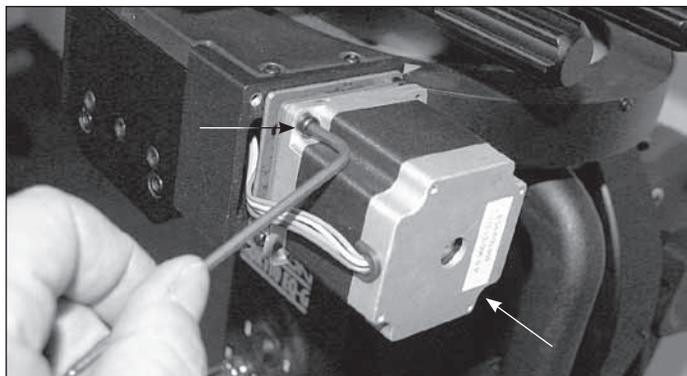

Fig. 5: Loosen by a quarter turn the two diagonally opposed screws that fasten the motor to the seat plate.
6. Now with a 3mm Allen key loosen by a quarter turn only the two screws that connect the DEC motor to the seat plate as shown in Fig. 5. These two screws are located diagonally across the motor; only one is visible in the figure. (For a very small DEC adjustment, you can skip this step.)